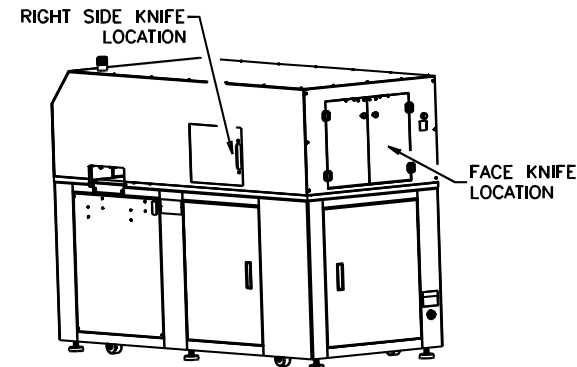
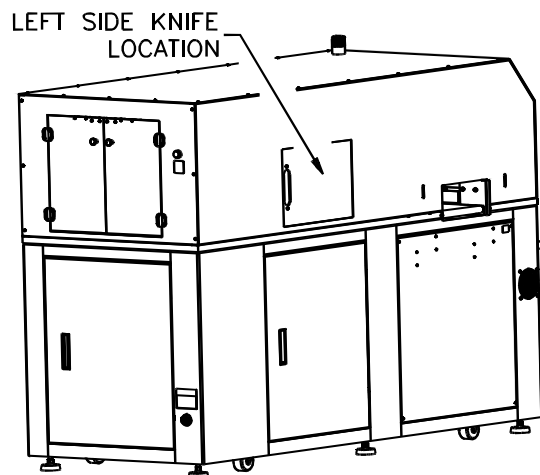

Figure 4-8. Knife Locations
Figure 4-9. Left Side Knife Location
1. Switch off (O) main power at the front of the machine and lock out the main power disconnect switch as described in section 1.5 Power Lockout Procedure on page 1-4.
3. The knives are located behind the plastic doors shown in Figure 4-8 and Figure 4-9.